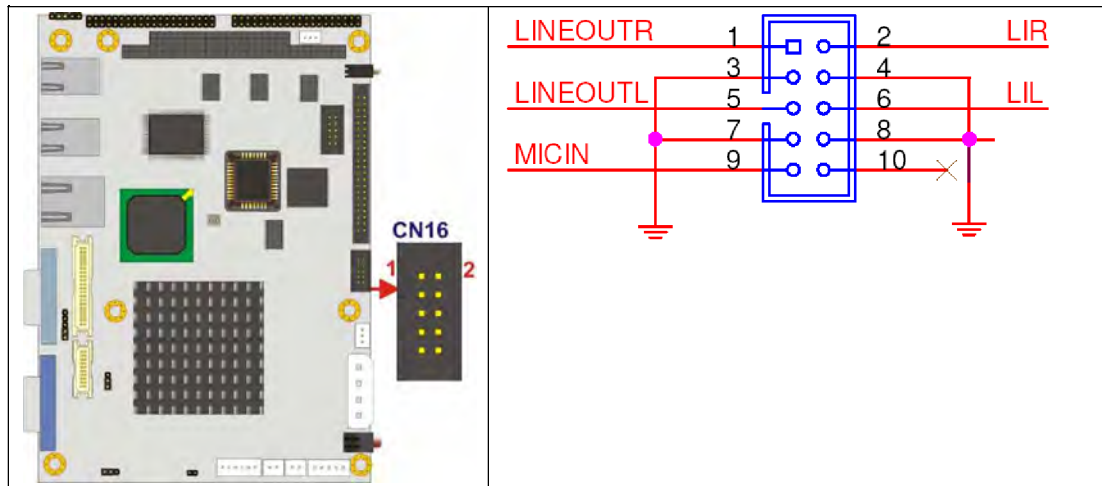

Figure 4-5: Audio Connector Pinouts (10-pin)
- CN Location:** See Figure 4-5